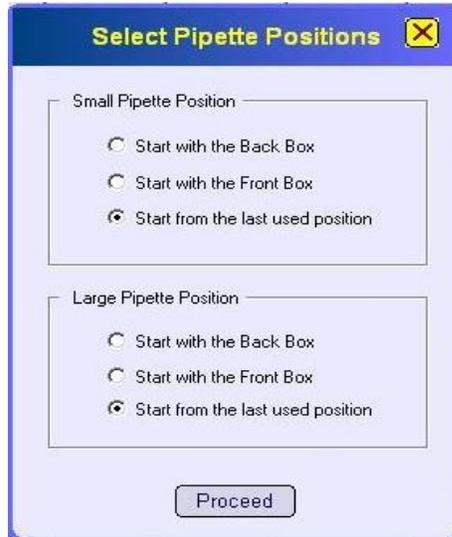

Figure 43<Select Pipette Positions> Window
15. Make the intended selections in the **<Select Pipette Positions>** window (Fig.43) for the pipette tip start positions in the two large pipette tip boxes and two small pipette tip boxes respectively (front, back or last used position).